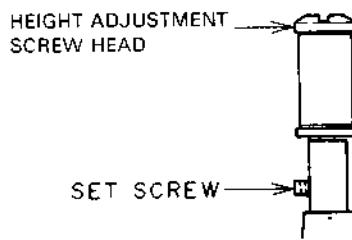

Fig. 5.12
- 1) Slightly loosen the set screw at lower part of the LOADING LEADERS (L), (R) so that LOADING LEADERS can be adjusted with reasonable tightness (Refer to Fig. 5-12.)